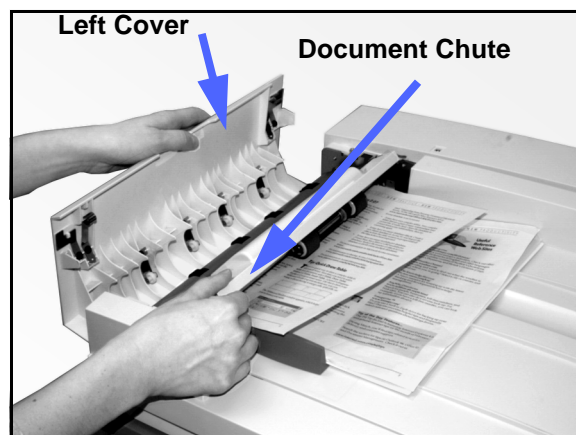

Figure 7: Opening the Left Cover and the Document Chute
- 1 Open the Left Cover by lifting it to the left and open the Document Chute, as illustrated in Figure 7.